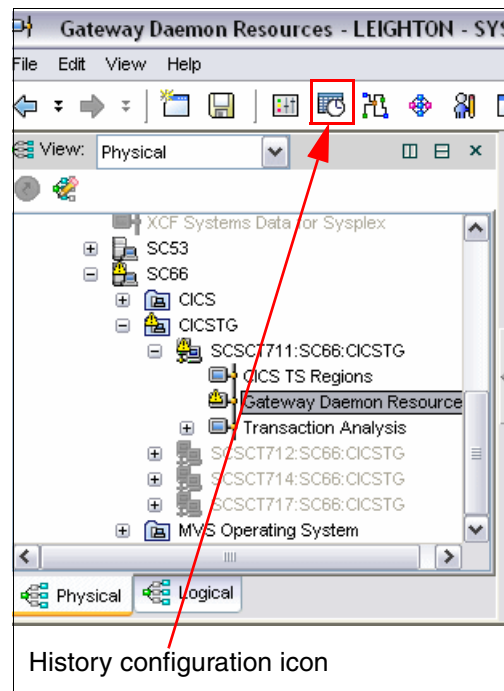

Figure 8-2 Selecting the History configuration window
1. Click the History Configuration icon on the tool bar, as shown in Figure 8-2.